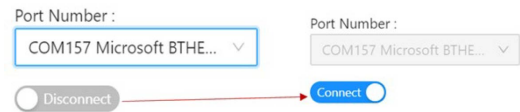
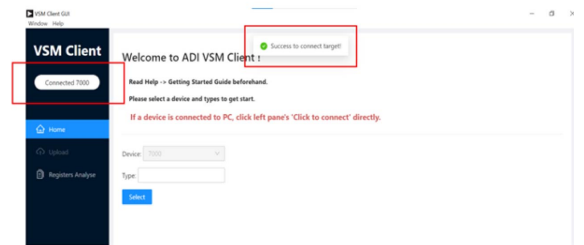

Figure 20. Toggle Connection Switch
Figure 21. Connection Successful
4. Toggle the connection switch to **Connect** (see Figure 20). When connected, a **Success to connect target!** pop-up appears at the top of the VSM Client window (see Figure 21), and the **Click to connect** button changes to display **Connect-ed 7000**. In addition, if using a Bluetooth connection, when connected, a blue light in the black board of the EVAL-VSMUCZ comes on. To disconnect the device, toggle the connection switch to **Disconnect**. The following pop-up messages can appear if the connection is unsuccessful: